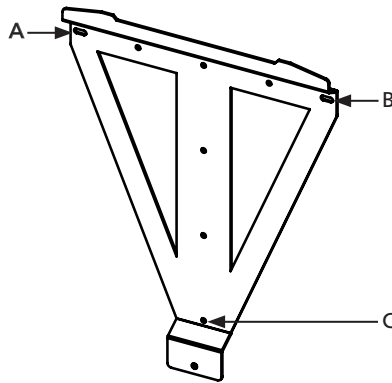

Figure 3-2 Large Mounting Bracket
- Has two top screw holes at either end of the large bracket, 16” (40.6 cm) apart which are designed to match standard stud spacing. Refer to Figure 3-2.